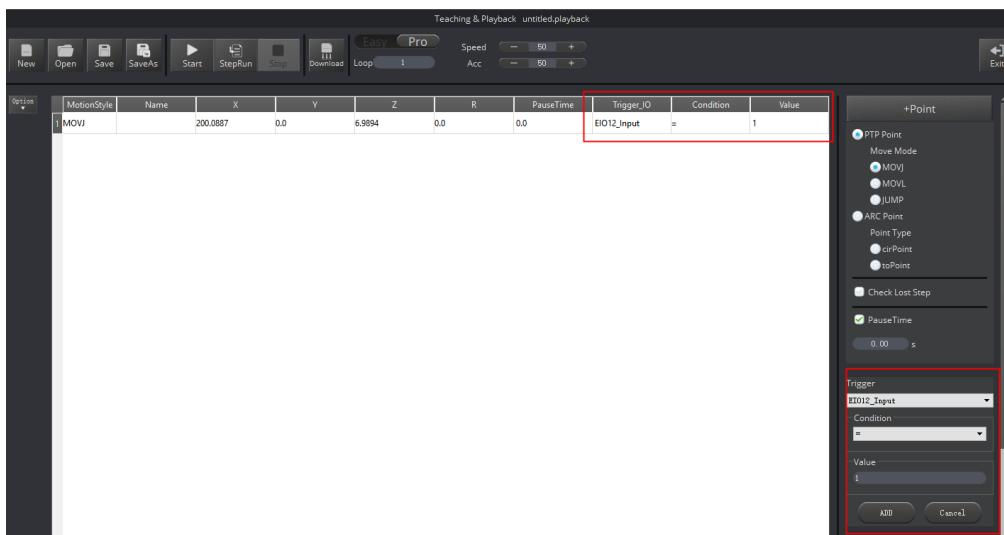

Figure 5.179 Saved point
**Step 4** Click **ADD**, as shown in Figure 5.179.